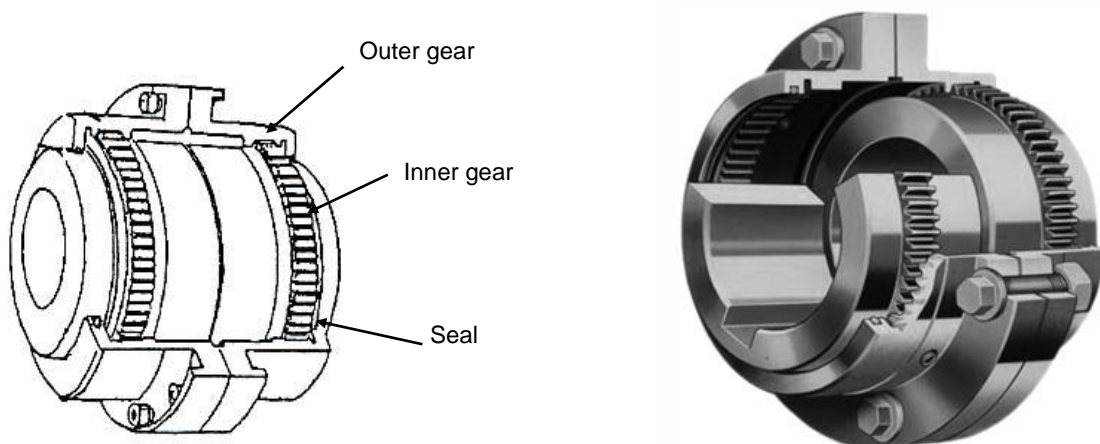

FIG 7.
- A. Flexible geared couplings, like roller chain couplings, require lubrication. Therefore all covers are fitted with lubrication fittings and seals on the ends. (Fig 7)